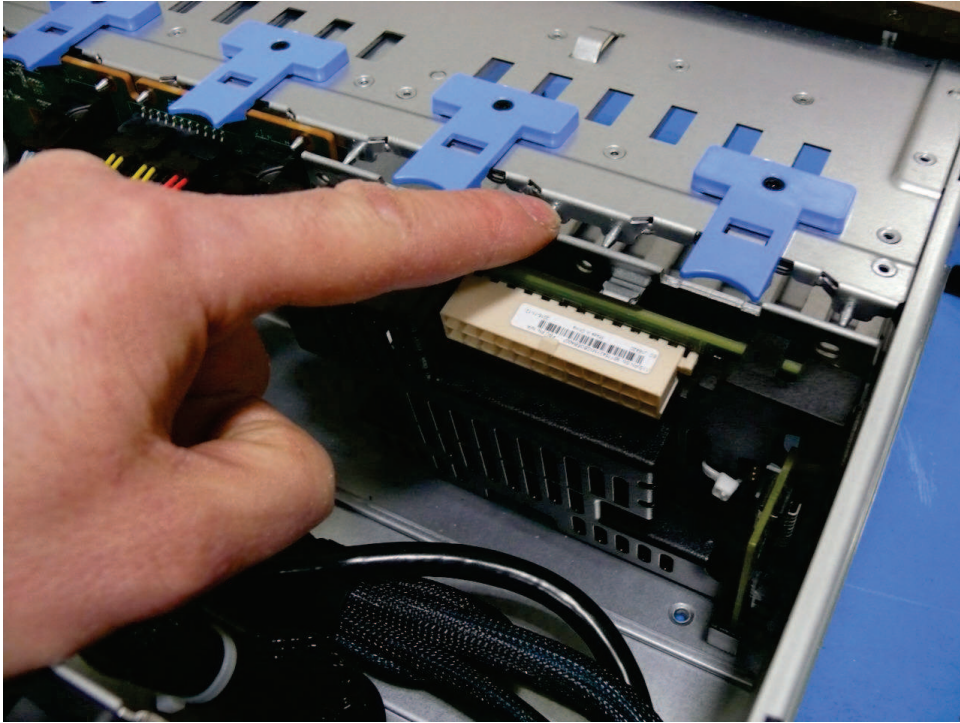

Figure 98. Removing the 2145-SV1 battery backplane
1. Raise the blue locking tabs and slightly pull back the battery backplane, as shown in Figure 98 on page 119. Then, lift the battery backplane from the chassis.